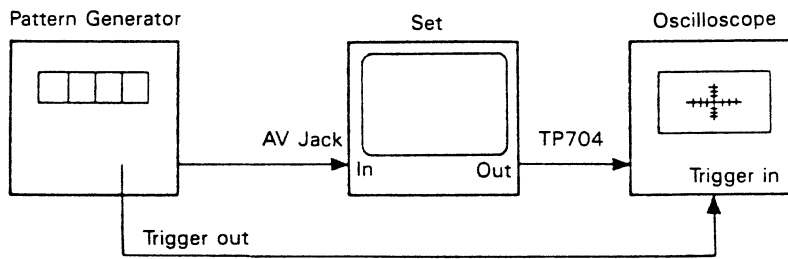

Fig. 25
- 2 Connect the equipment as shown in Fig.25